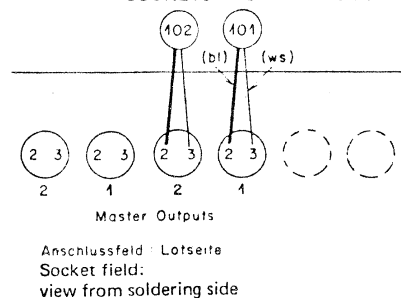

Fig. 6.2.–4
- Screw on correlator meter and wire according to fig. 6.2.–5.